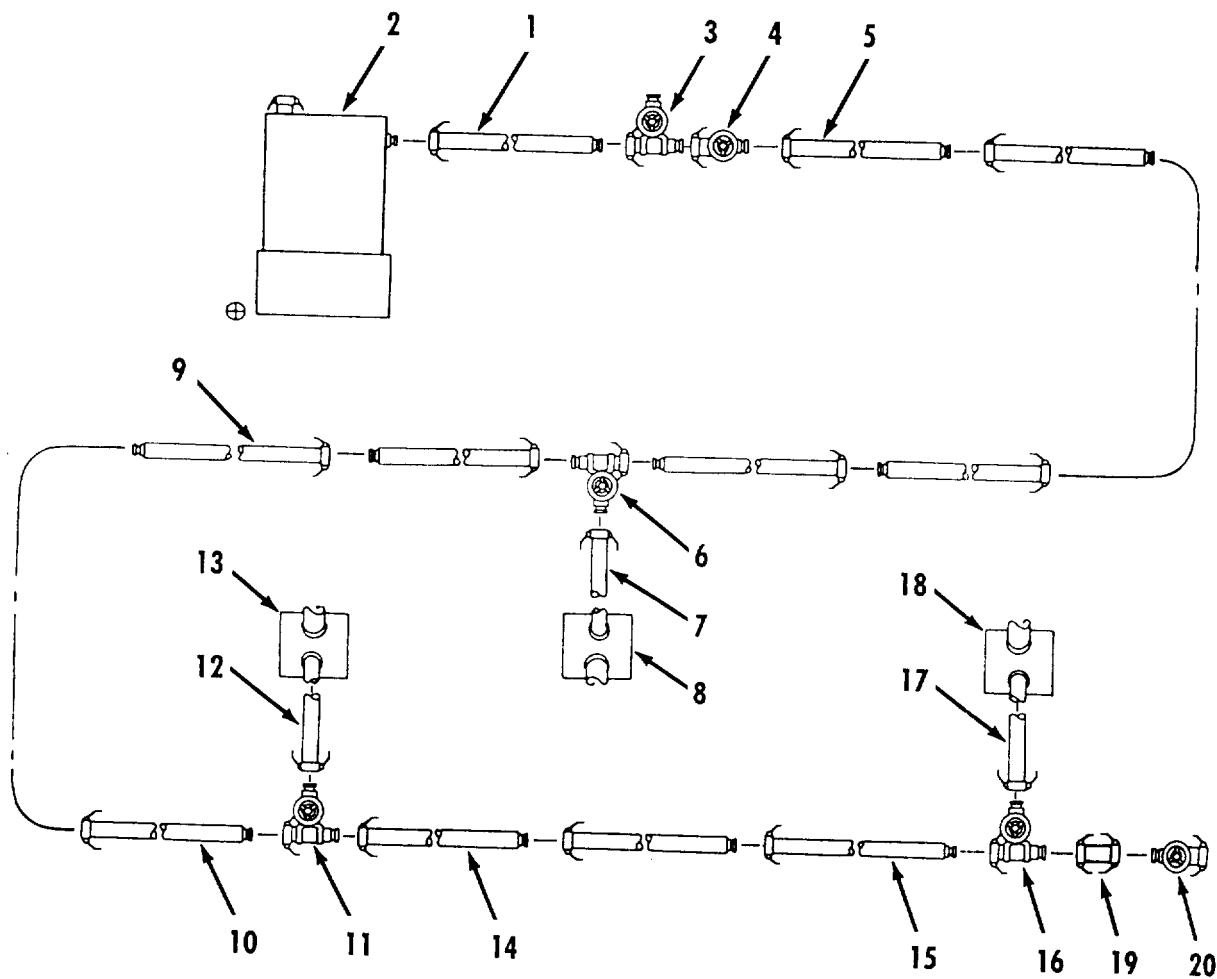

Figure 2-54. Fuel System - Fuel Tank Discharge to Secondary 600 GPM Pump Input Removal.
- m. Fuel System - Fuel Tank Discharge to Secondary 600 GPM Pump Input Removal. Refer to figure 2-54.